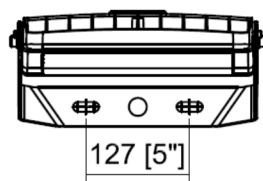

Fig. 2
2. Use expansion bolts to secure the fixture on mounting surface, Refer to hole bitmap Fig. 2